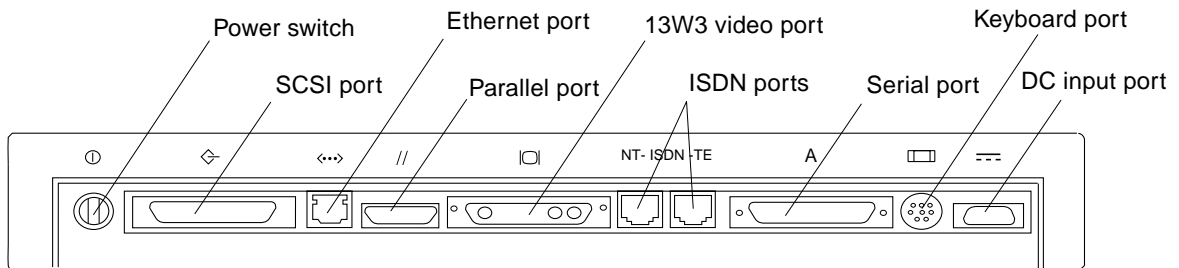

FIGURE 1-5 Back Panel
- FIGURE 1-5 shows the back panel